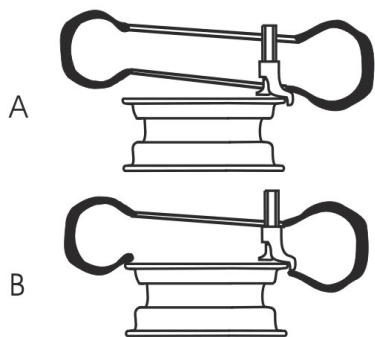

Fig.27
- Adjust relative position between the tire and the mount/demount head to make the tire bead cross the mount/demount head. At the end of the mount/demount head, the tire bead should be placed on the mount/demount head (Fig.27-A). At the beginning of the mount/demount head, the tire bead should be placed under the ball protuberance of the mount/demount head (Fig.27-B).